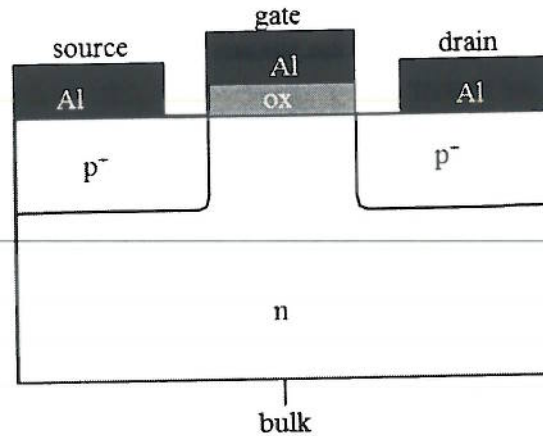

Figure 4.1: Material cross section of a pMOS.
4. In figure 4.1, the material cross section of a long gate length Si pMOS is given. The gate metal is Al. The substrate doping is $N_D = 5 \times 10^{16} \text{ cm}^{-3}$, the ohmic contact doping is $N_A = 10^{20} \text{ cm}^{-3}$, the oxide thickness is 2 nm and the gate length and width are, respectively, 1 μm and 10 μm .